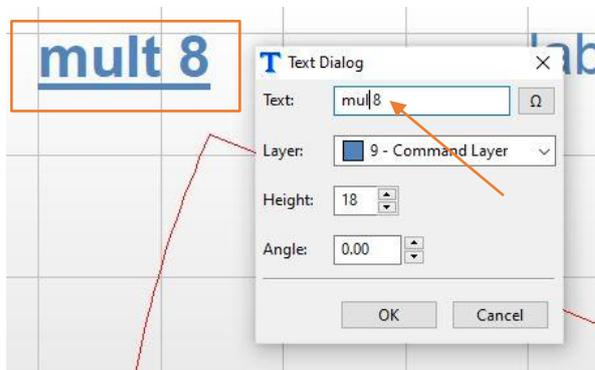

Figure 154
- Text:** Finally remove the added letter “t” from our “mult 8” text to get the correct “mul 8” NestKing Command. Therefore just double-click on the “mult 8”-text object and remove the “t” in the text entry (Figure 154).